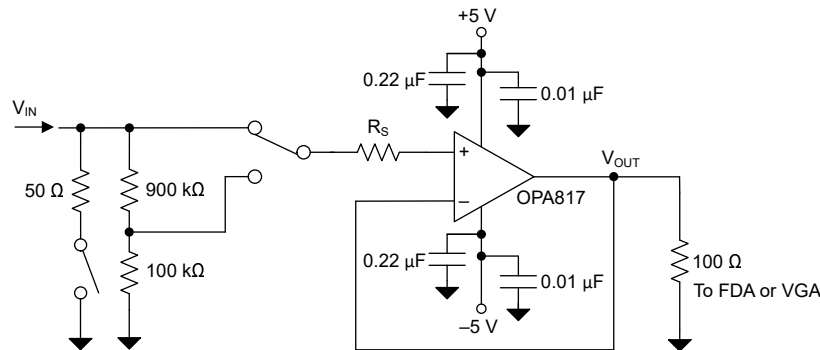
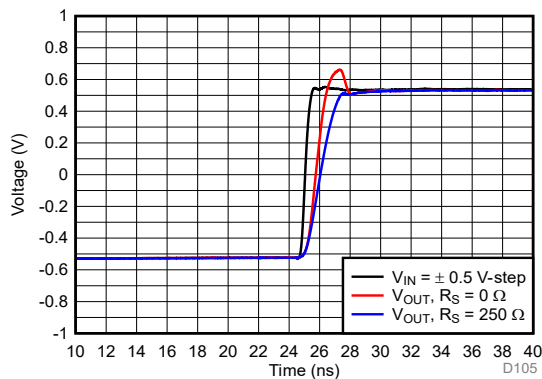
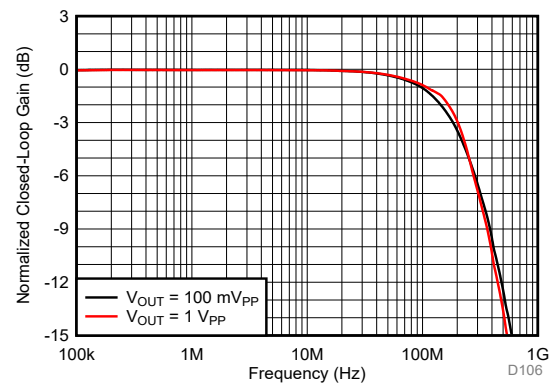

Figure 8-3. High-Input-Impedance, 200MHz, Digitizer Front-End Amplifier
Figure 8-4. Step Response of Digitizer Front-End
Figure 8-5. Frequency Response for $R_S = 250 \Omega$
- Optimizing Overshoot:** The OPA817 features an internal slew-boost circuit to deliver fast rise-time in applications needing high slew rates such as when configured as a transimpedance amplifier. For applications where overshoot needs to be limited, the input slew rates can be limited with introducing a series resistance (R_S) as shown in Figure 8-3. The resistance R_S forms a low pass filter with the input capacitance of approximately 2.6 pF at the noninverting pin of the OPA817 limiting the input slew rate to the amplifier. Figure 8-4 shows how limiting the input slew rate to the amplifier results in good overshoot performance, and Figure 8-5 shows how this achieves a small signal and large signal bandwidth of 200 MHz.